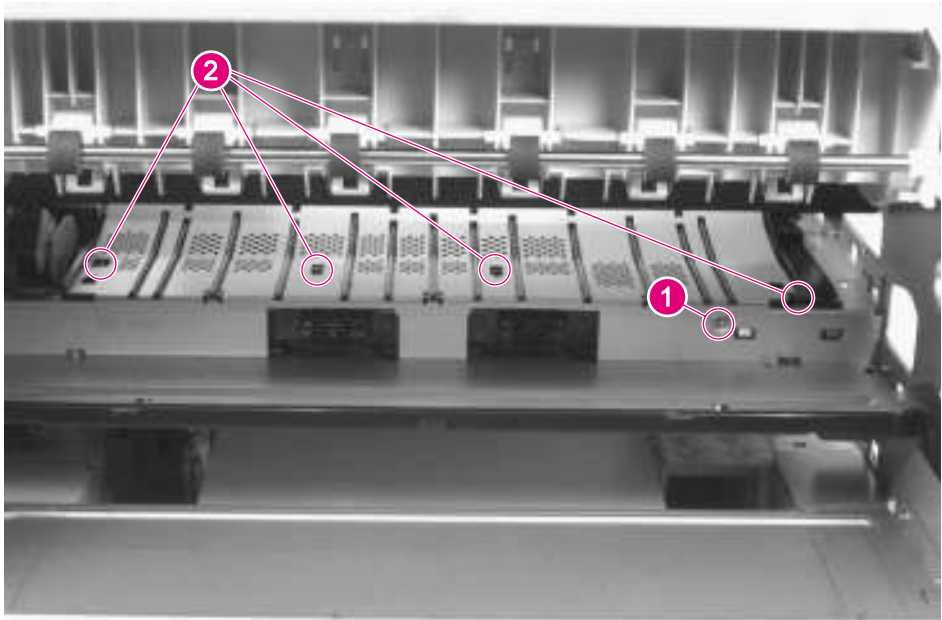

Figure 6-34 Feeder Assembly (2 of 2)
- 8** Remove 1 screw at the back of the Feeder Assembly (figure 6-34).
- 9** Release 4 plastic retaining tabs by moving them in the directions indicated in figure 6-34 while carefully lifting upwards on the Feeder Assembly.